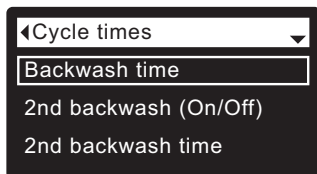

FIG. 81
5. Press the SELECT (O) button to display the Cycle times menu (See Figure 81).
9. Press the SELECT (O) button. The display will go back to the Cycle times menu (Figure 81).